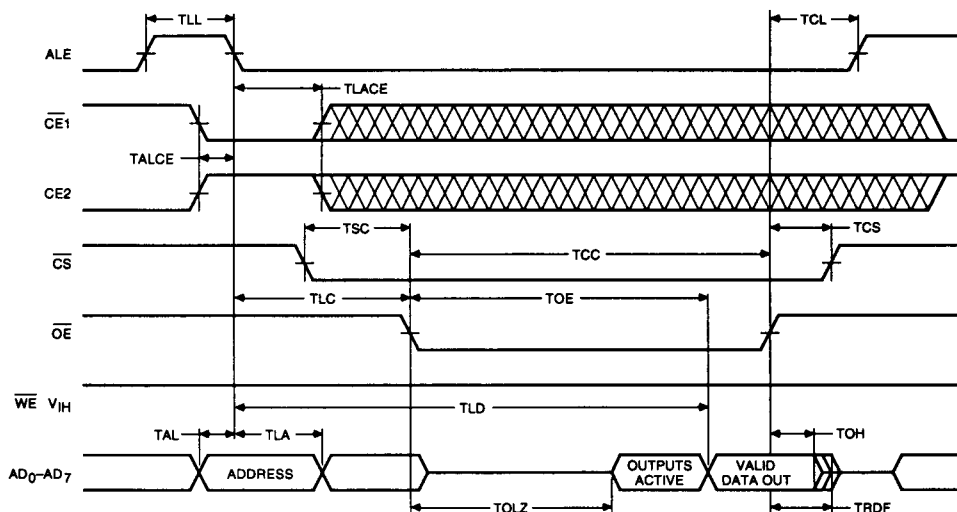

Figure 2. Read Timing
Figure 2 shows the timing diagram for READ operation. The address as well as the states of CE1 and CE2 are latched on the falling edge of ALE. Pins 1 through 7 are used for address bits.
*See Figures 2 and 3.